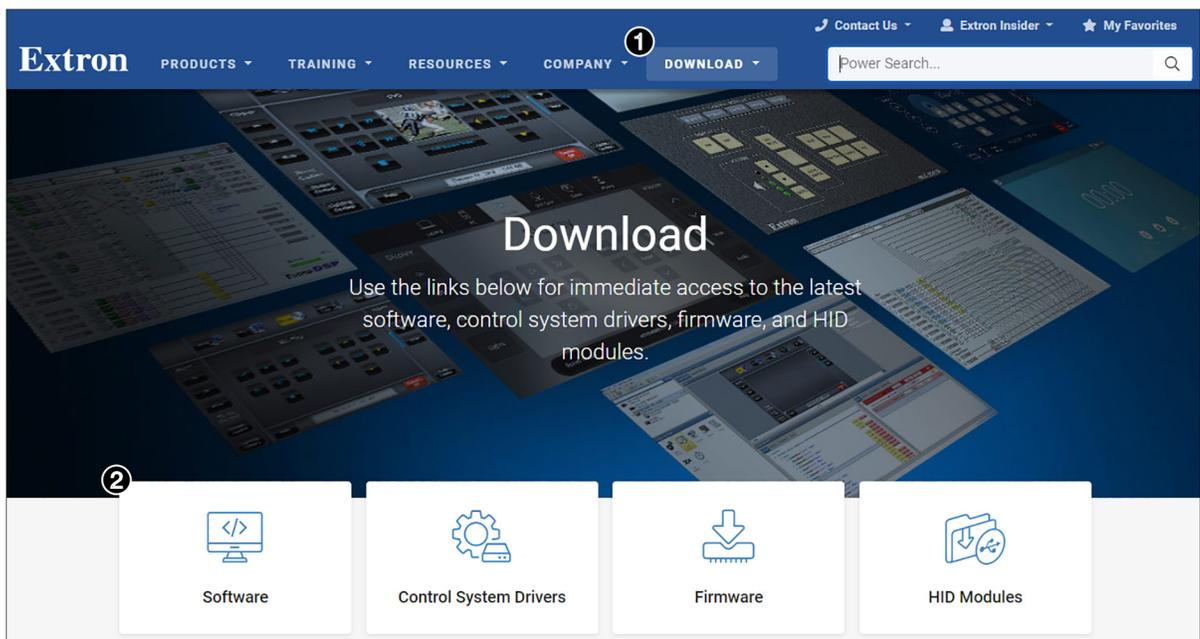

Figure 17. Download Tab and Software Button on the Download Screen
1. On the Extron website, select the **Download** tab (see figure 17, **1**), then click the **Software** button (**2**).